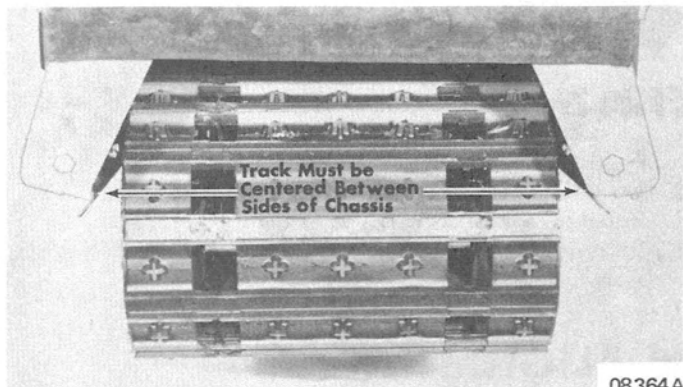

Figure 19. Checking Track Alignment
3. STOP the SNOWMOBILE ENGINE. Scan the track, making certain that track is centered between sides of chassis. (Figure 19)
6. As a final track alignment check, it is recommended that snowmobile be run over smooth terrain and in a straight line for approximately 100 yards (91 meters). STOP the SNOWMOBILE ENGINE. With track on ground, recheck track alignment as shown in Figure 19. If further track adjustment is necessary, refer to Steps 4 and 5, preceding.